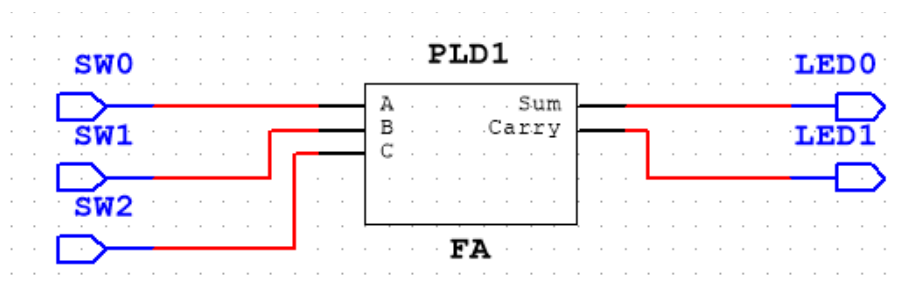

Figure 5. Completed circuit
- Go back to the schematic shown in Figure 5.